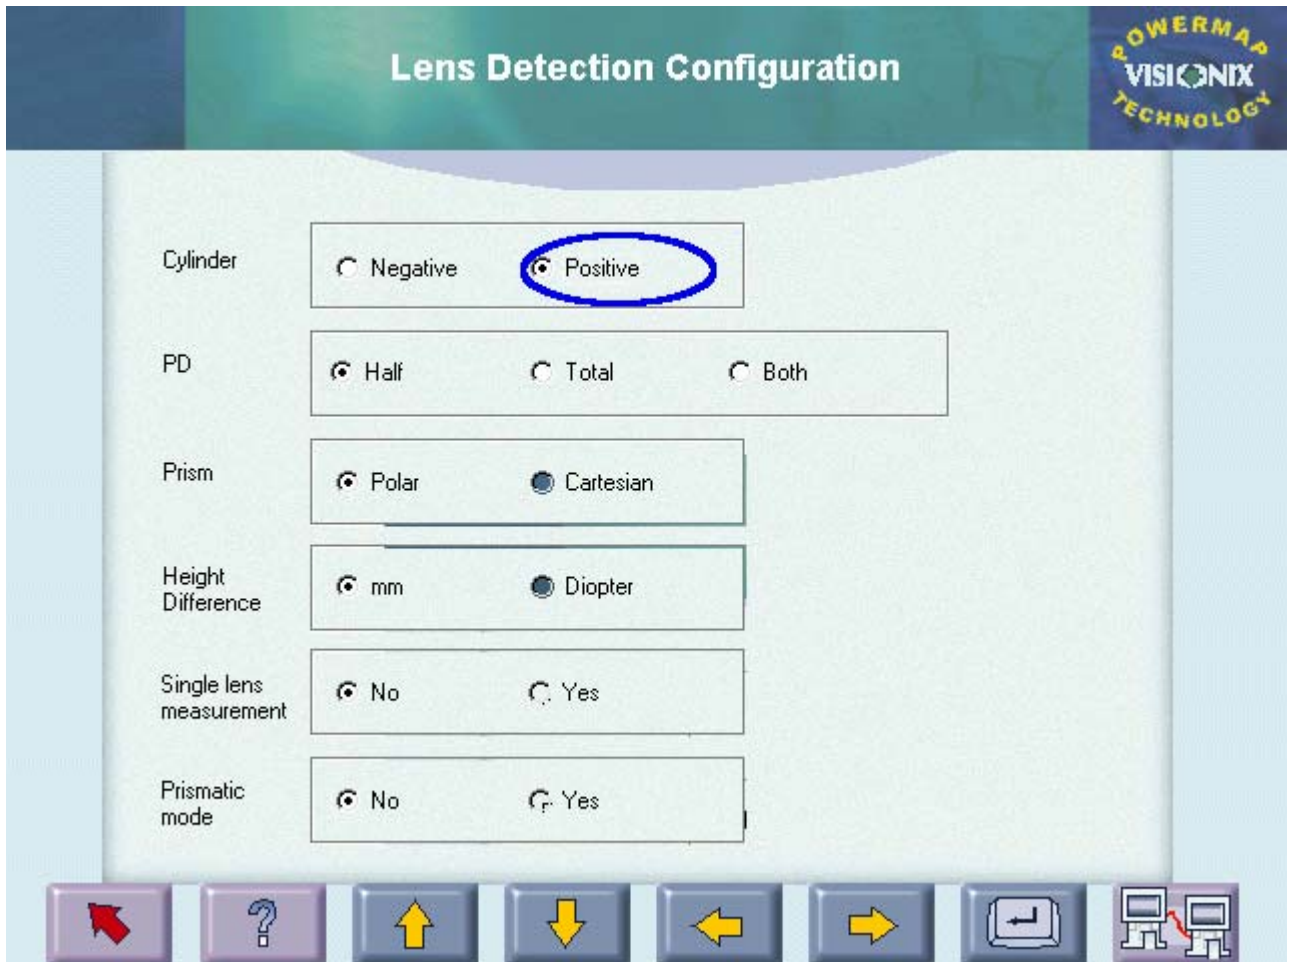

Figure 19
1. Press the **Help/Setup** button ; the **Lens detection Setup** screen is displayed. (see Figure 19).